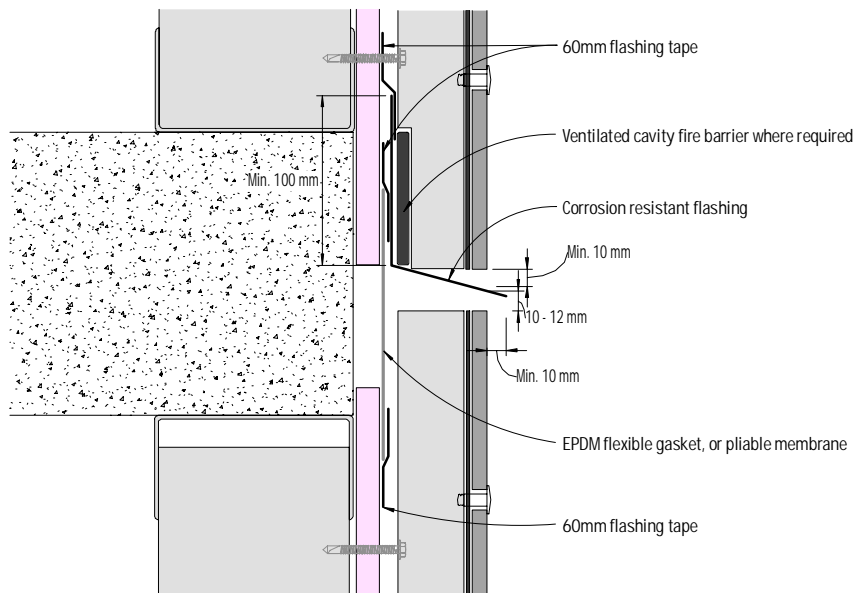

Figure 10: Horizontal control joint - Detail 2
- 3) In Figure 10, should a larger gap be required under the inter-storey flashing, the weatherproofing performance of the detail shall be evaluated by project engineer.